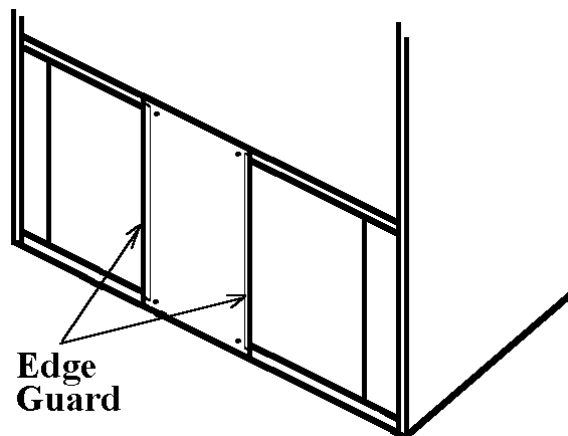

Figure 1
2. Carefully snap the trim over the two vertical edges of the metal condensation plate. See figure 1 below.